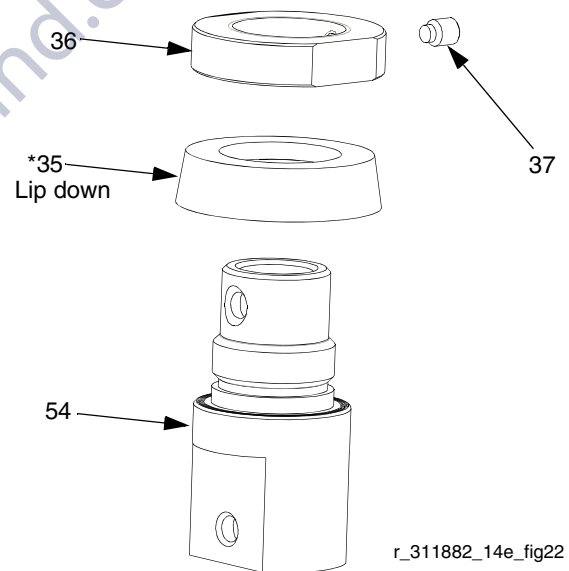

FIG. 22
10. Loosen set screw (37) from collar (36). Remove collar from piston housing (54). Remove u-cup (35*). Inspect all parts for damage. See FIG. 22.